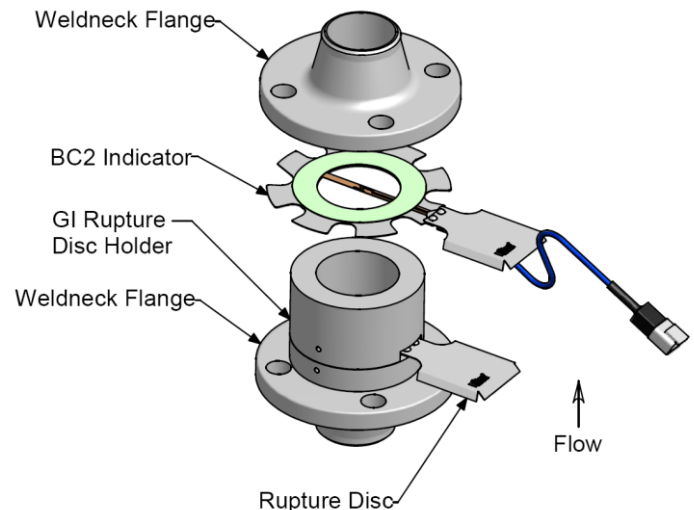

Figure 1 - BC2, BC2 LP, BC2-H2 Installation into Bolt-Type rupture disc holder
4. Install the BC2, BC2 LP, BC2-H2 with bolt-type holder in companion flange as shown in Figure 1. Gaskets are supplied attached to the BC2, BC2 LP, BC2-H2, no additional gaskets are required. Do not install any spiral wound gaskets in the BC2, BC2 LP, BC2-H2 flange joint.